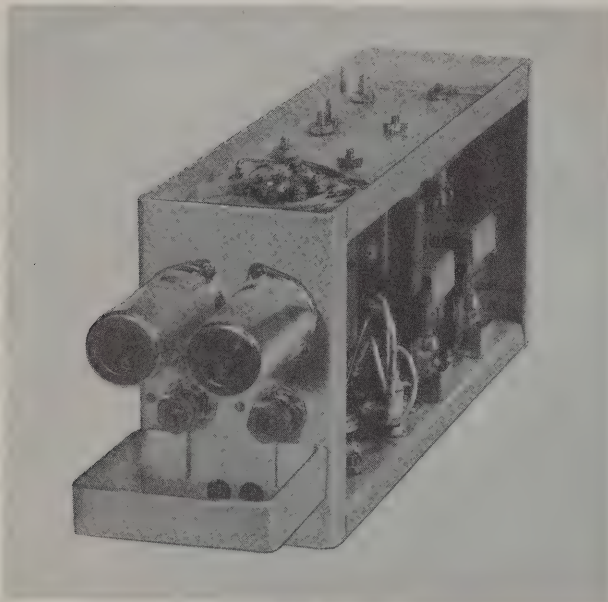

Figure 7. Servo Amplifier.
- (d) *Servo amplifiers (figs. 7 and 9).* Three identical servo amplifiers are mounted in an assembly rack in the center of the lower part of R-F Amplifier AM-738/FRT-22. The servo amplifiers, in conjunction with their tuning motors, serve to position the three tuned circuits in this bay, PA PLATE TUNING, ANTENNA LOADING, ANTENNA TUNING.
- (e) *Servo power supply (fig. 7).* The servo power supply furnishes voltage to the three servo amplifiers located in R-F Amplifier AM-738/FRT-22. It is mounted at the bottom center of the assembly rack in the r-f bay.
- (3) *Power Supply Assembly PP-1088/FRT-26.* This unit occupies the left-hand bay of Radio Transmitting Set AN/FRT-22. Continuous visibility of the rectifier tubes is provided by a large window in the upper front door. Meters associated with the high voltage d-c, the primary a-c voltage and the intermediate power amplifier filaments are located above the window. Status lights and controls are mounted below the window. A blower for circulating air in the power bay is mounted on the floor of the unit and is accessible through the rear doors. No special cooling is required for the rectifiers, since they contain the inert gas xenon, and can operate efficiently and properly in spite of extremely wide temperature variations. All doors except the lower front are provided with dual interlocks for the protection of personnel. In addition Power Supply Assembly PP-1088/FRT-26 contains the following subordinate units and circuits.